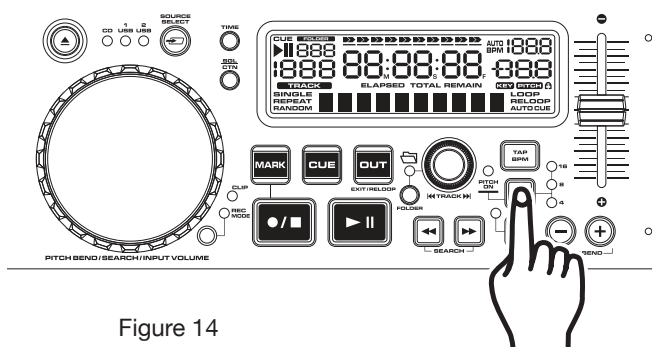

Figure 14
Using the Pitch Slider Percentage Selector (11): You may choose a pitch operating range at any time. To change the operating range be sure the pitch function is turned on, see figure 14. The pitch percentage can be changed between $\pm 4\%$, $\pm 8\%$, $\pm 16\%$, and 100% . 4% will allow the least amount of pitch manipulation and 100% will allow the most amount of pitch manipulation. To adjust the different values, press the *PITCH ON/OFF BUTTON* (11) and Tap on the *% BUTTON* (11) until your desired value is reached. The L.E.D. of the *% BUTTON* (11); glowing red for 4% , glowing yellow for 8% , or glowing amber for 16% , and all LEDs glowing for 100% .